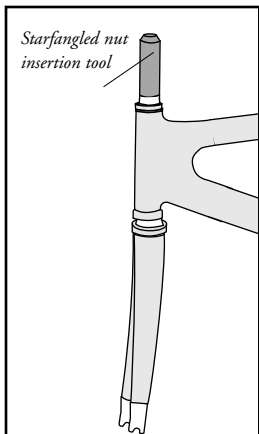

Fig. 28
5. Thread the star-fangled nut insertion tool into the star-fangled nut already installed in the fork steerer tube (Fig. 28).